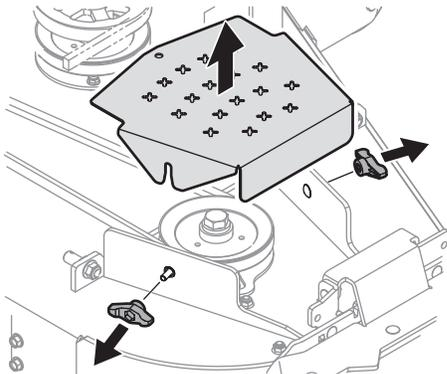

Figure 29
- Clean the top of the mower deck, under the spindle covers and belt area (Figure 29).